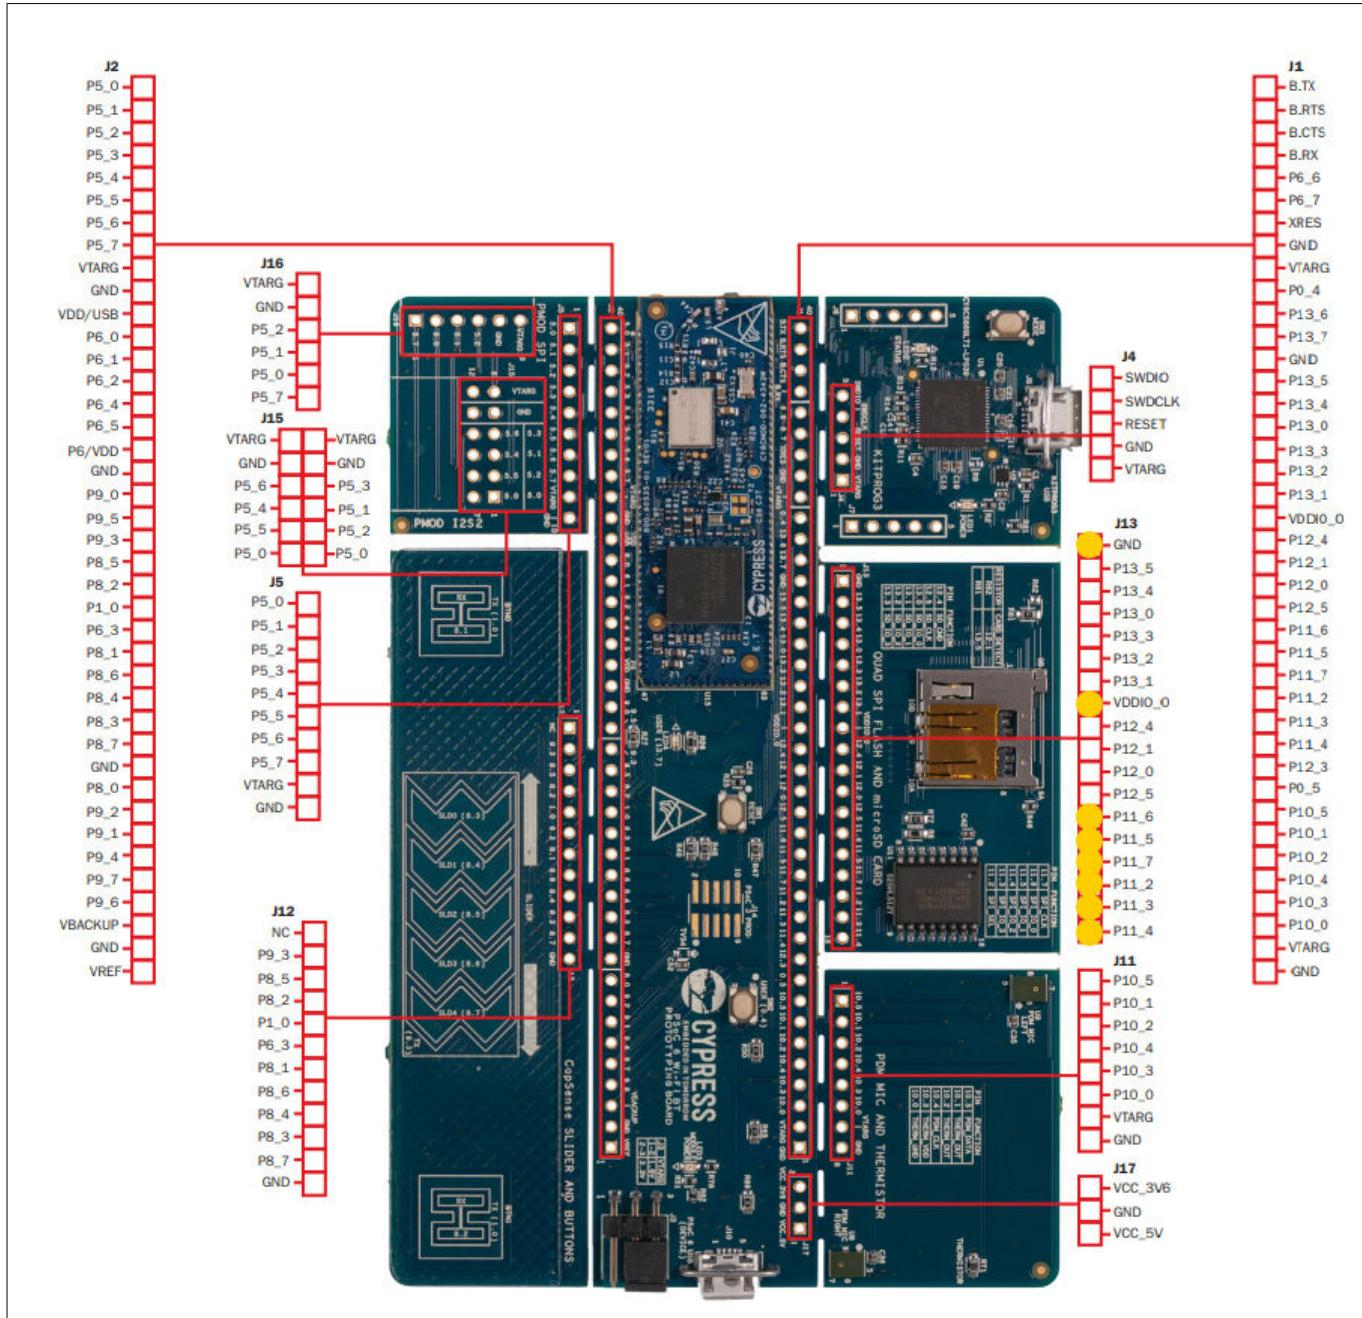

Figure 158 Board pinout
3. Solder the pin headers to GND, VDDIO, pins 11.6, 11.5, 11.7, 11.2, 11.3, and 11.4 pin holes. See Table 17 and Figure 158